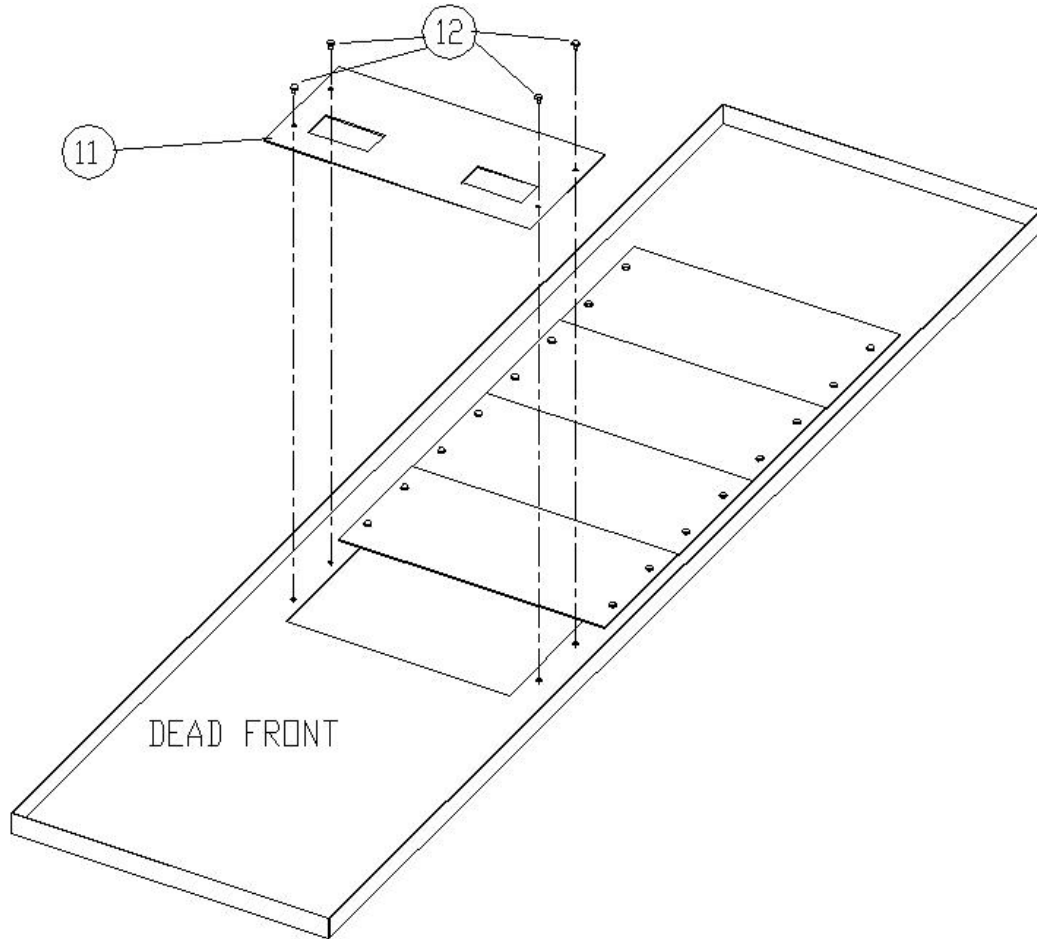

Figure 3. Attaching the shield insert to the shield for FB breaker installation in A-Series® II Panelboards.
10. Place the filler plate [11] over the dead front so that the four same-size holes line up with the threaded holes of the dead front, as illustrated in Figure 3. Fasten filler plate to the dead front with four #10-32 x $\frac{3}{8}$ screws [12] tightened to 27-36 in-lb.